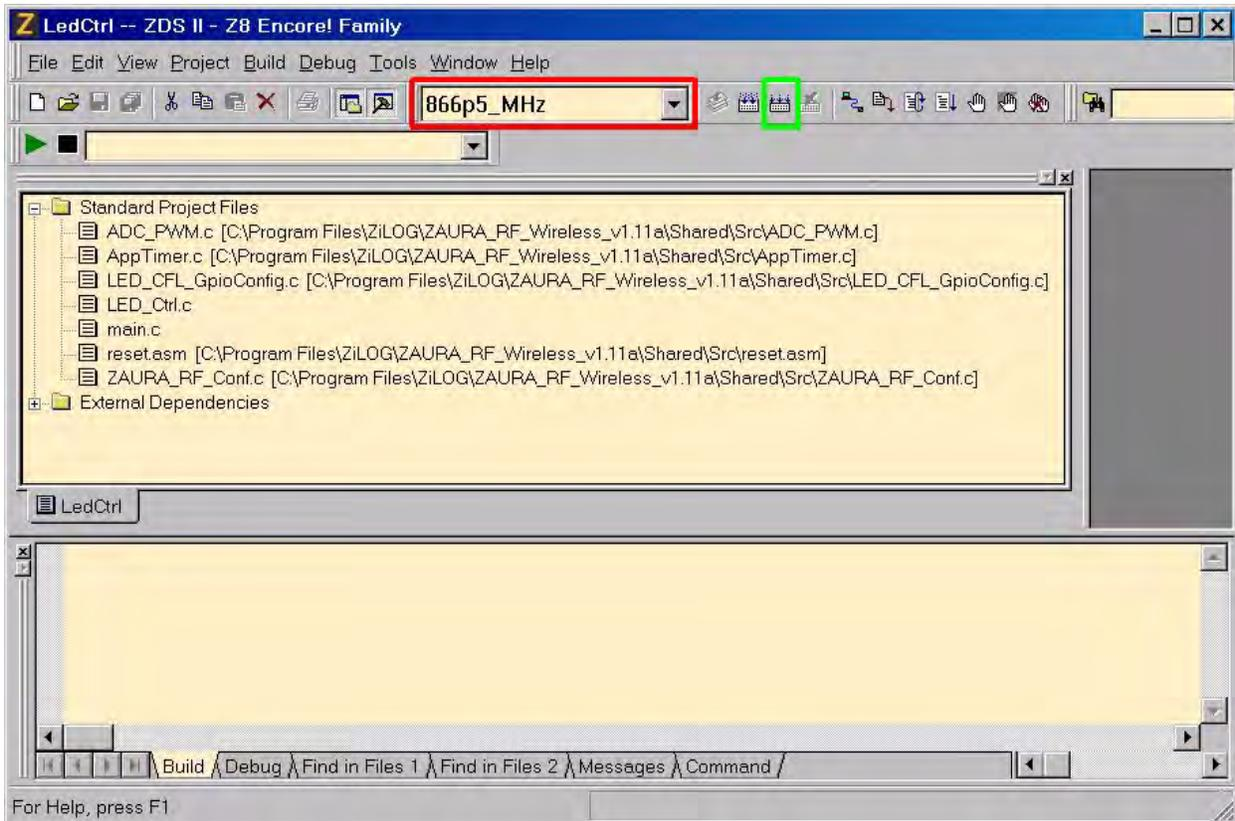

Figure 9. Build Mode Configuration
5. Select the 866p5\_MHz build configuration file from the ZDSII toolbar. This menu is highlighted in red in Figure 9.
6. Click the **Rebuild All** toolbar icon, which is highlighted in green in Figure 9.